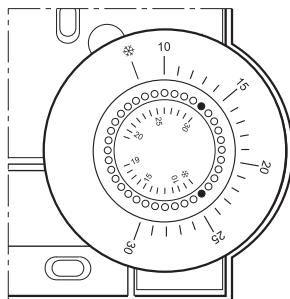

Fig. 16: Limiting the adjustment range
- ▶ Place the two small pins into the holes of the adjustment dial in order to limit the adjustment range (see Fig. 16). Orientate yourself on the basis of the inner scale: In Fig. 16, the pins are inserted so that the adjustment dial can only be adjusted in the range of 19 °C to frost protection * (lower limit) and 19 °C to 30 °C (higher limit) around the value 19 °C.